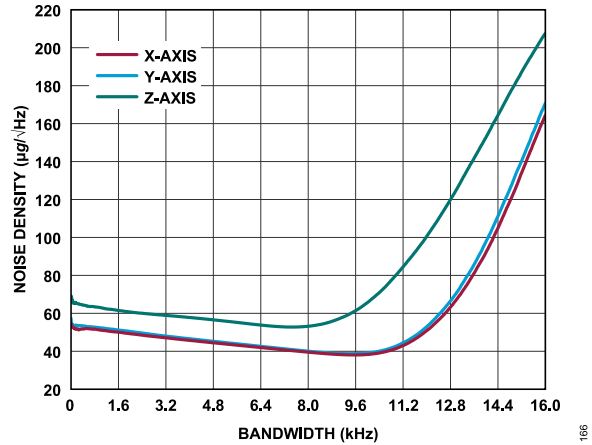
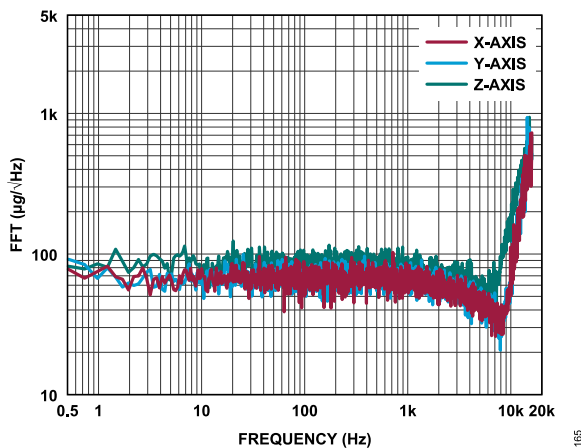

Figure 66. Noise Density vs. Bandwidth at 25°C, $V_S = 3.3 \text{ V}$, $\pm 15 \text{ g}$ Range, HP Mode in Standard Configuration
Figure 65. Noise Spectrum at 25°C, $V_S = 3.3 \text{ V}$, $\pm 15 \text{ g}$ Range, HP Mode in Standard Configuration
When HP mode is operating in the standard configuration to extend the signal bandwidth up to 16 kHz, increased noise can be observed towards the upper end of the frequency range in the FFT noise spectrum (Figure 65). As higher frequency noise components become included within the signal bandwidth, the noise density correspondingly increases at high frequencies, as shown in Figure 66. This noise density reaches its lowest levels between approximately 7 kHz and 10 kHz. At 8 kHz, the noise density is 44 $\mu\text{g}/\sqrt{\text{Hz}}$ (XY) and 55 $\mu\text{g}/\sqrt{\text{Hz}}$ (Z). Applications with signal content concentrated below 10 kHz benefit from this reduced noise floor.